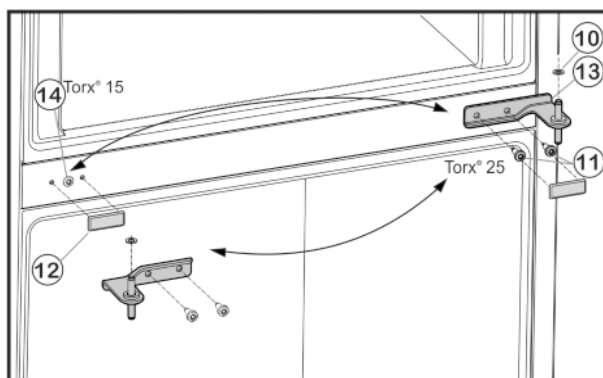

Fig. 5
- ▶ Unscrew the fastening screws Fig. 5 (11) (2 x Torx® 25) and pull the centre bearing block out of the lower door.
- ▶ Remove plastic washer Fig. 5 (10).
- ▶ Remove the cover Fig. 5 (12) carefully.
- ▶ Unscrew the fastening screw Fig. 5 (14) (1 x Torx® 15) and screw it back in on the opposite side.
- ▶ Re-install the cover Fig. 5 (12) on the opposite side.
- ▶ Insert the centre bearing block Fig. 5 (13) turned through 180° into the lower door and fasten firmly (**with 4 Nm**) to the new hinge side with the fastening screws (2 x Torx® 25).
- ▶ Refit plastic washer Fig. 5 (10).